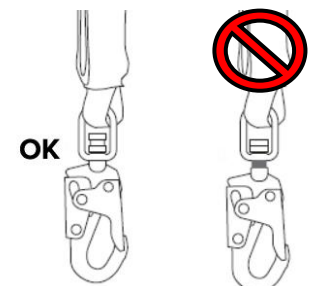

Fig. 2
- Inspect the external connector swivel eye and the anchorage connection carabiner and the self-locking snaphooks for damage or deformation and that the gates open, snap closed and locks easily and smoothly. Inspect the self-locking snaphooks to be sure that the impact load indicator has not been deployed (snap swivel section shows a red warning band Fig. 2). Be certain both the carabiner and self-locking snaphook gates are free of burrs, functioning properly, clean and not bent. Also, inspect the retractable unit housing to ensure no breaks, distortion, cracks, loose or missing screws or other damage exist. Ensure that all connecting hardware is properly fastened and is secure.